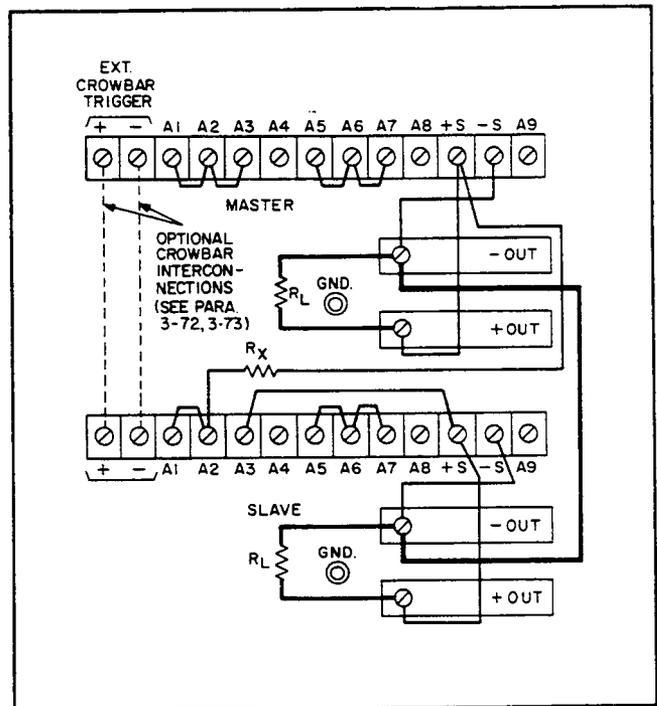

Figure 3-14. Auto-Tracking Operation of Two Units
**3-68** Figures 3-14 and 3-15 show the rear panel interconnections required to operate two or three supplies in the auto-tracking mode. This mode of operation allows two or three supplies that share a common negative output bus to power separate loads and have their outputs simultaneously programmed by the voltage and current controls of a master supply. Unless their outputs are to be equal, the supply that is to have the greatest output voltage must be selected as the master. The output voltage of each slave supply remains a constant percentage of the master's with the percentage for each slave established by that slave's voltage control settings and the choice of its external programming resistor  $R_x$ . Any of the supplies included in this manual can be used as an auto-tracking slave, and any well-regulated variable output supply can be used as the master.
**3-73** In order to have all supplies in an auto-tracking combination crowbar simultaneously if any of them has an overvoltage condition, parallel their crowbar circuits as shown in Figure 3-14 or 3-15. Set the overvoltage potentiometer in each supply so that it trips at a point slightly above the voltage that supply will provide.